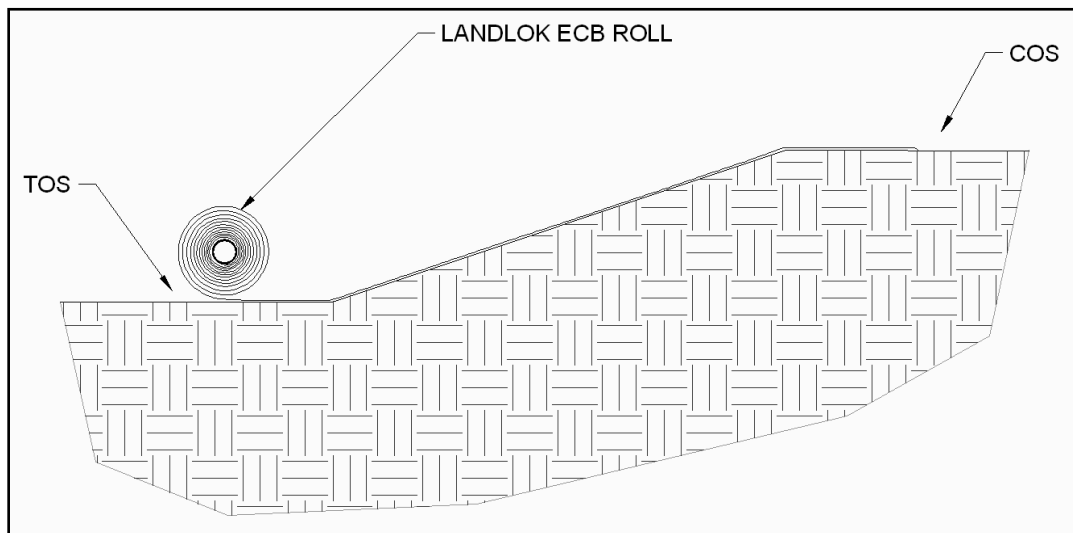

Figure 3: Placement of LANDLOK ECB across Slope
- Unroll the LANDLOK ECB roll on the slope surface in the area to be armored (Figure 3). Ensure that LANDLOK ECB has intimate contact with the ground and all irregular surfaces beneath LANDLOK ECB are removed.